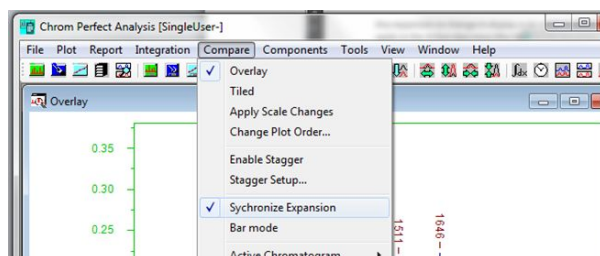

Figure A-50: Synchronize Expansion
3. To apply the expansion and change to all the traces, the data traces should be "Synchronized". This can be done by clicking **Compare** and check **Synchronize Expansion** as shown in Figure A-50.